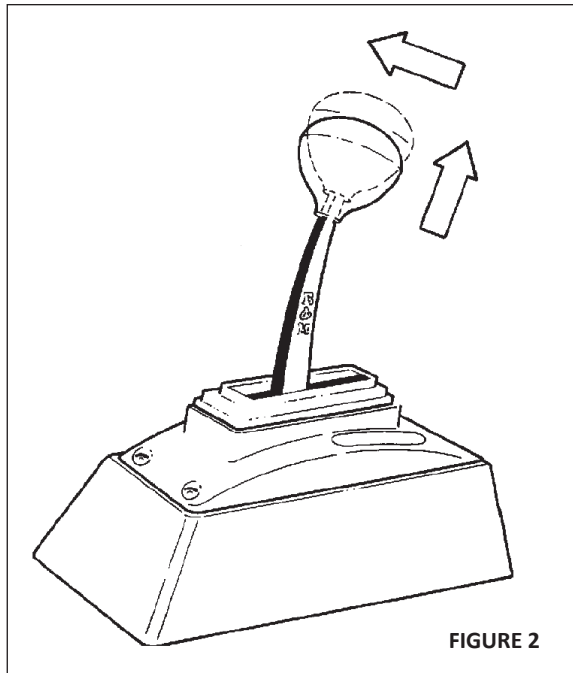

FIGURE 2
**To get to PARK** from DRIVE or NEUTRAL, lift the lever all the way up and push it all the way forward to the PARK position (Figure 2). To get to PARK from REVERSE, simply push the lever all the way forward.
To prevent unintended shifting into REVERSE, the shifter only operates in Ratchet Shift mode between the forward gears and NEUTRAL. To move from Ratchet Shift back to Straight Gate mode, first shift the transmission to DRIVE, then lift the shift lever up and push the handle forward to NEUTRAL, REVERSE or PARK (Figure 2). **IMPORTANT: RETAIN THESE INSTRUCTIONS FOR FUTURE REFERENCE**